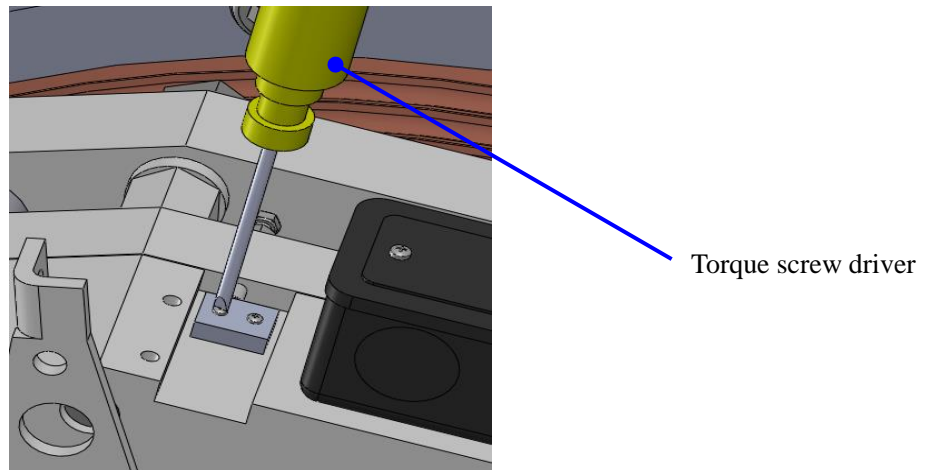

Figure 49: Secure new brake switch
3. Install the brake switch on the brake body by tightening the screws M2x10 with a straight head screw driver. Apply Loctite 271 between the screw heads and the switch body, then use torque screw driver to tighten the bolt to 35 in-lb. See Figure 49.